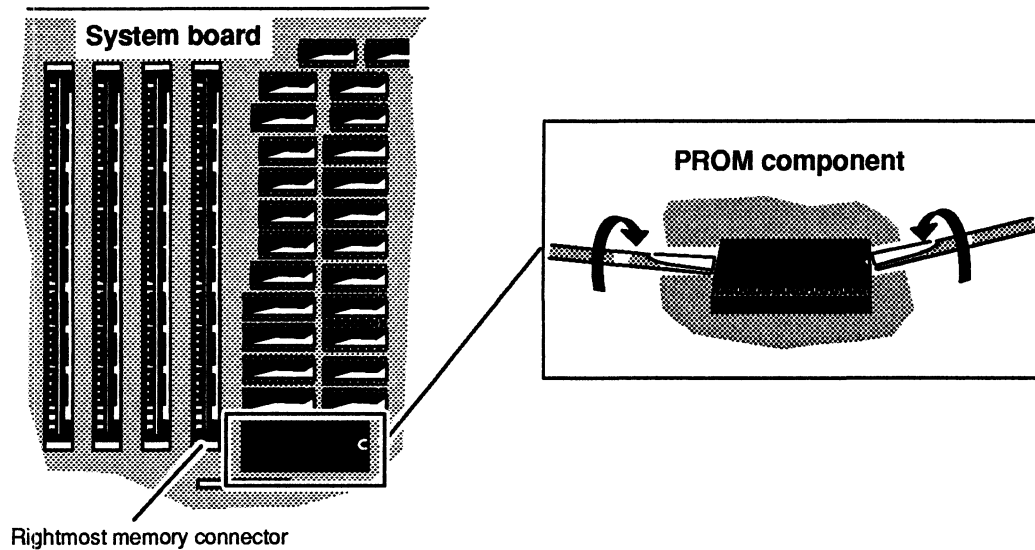

Figure 5-7 Removing the PROM Component
7. Using a flat-blade screwdriver, *gently* pry up one end and then the other end of the PROM component as shown in Figure 5-7 until it is loose enough to remove by hand.
Before you can install the new system board, you need to remove the computer unit's right side cover and attach the ESD wrist strap as described in the "Opening the Computer Unit" section of Chapter 1. If the *replacement* system board has a PROM installed as shown in Figure 5-7, you need to remove the PROM component from the replacement system board following Steps 7 and 8 in the previous section "Removing the System Board."